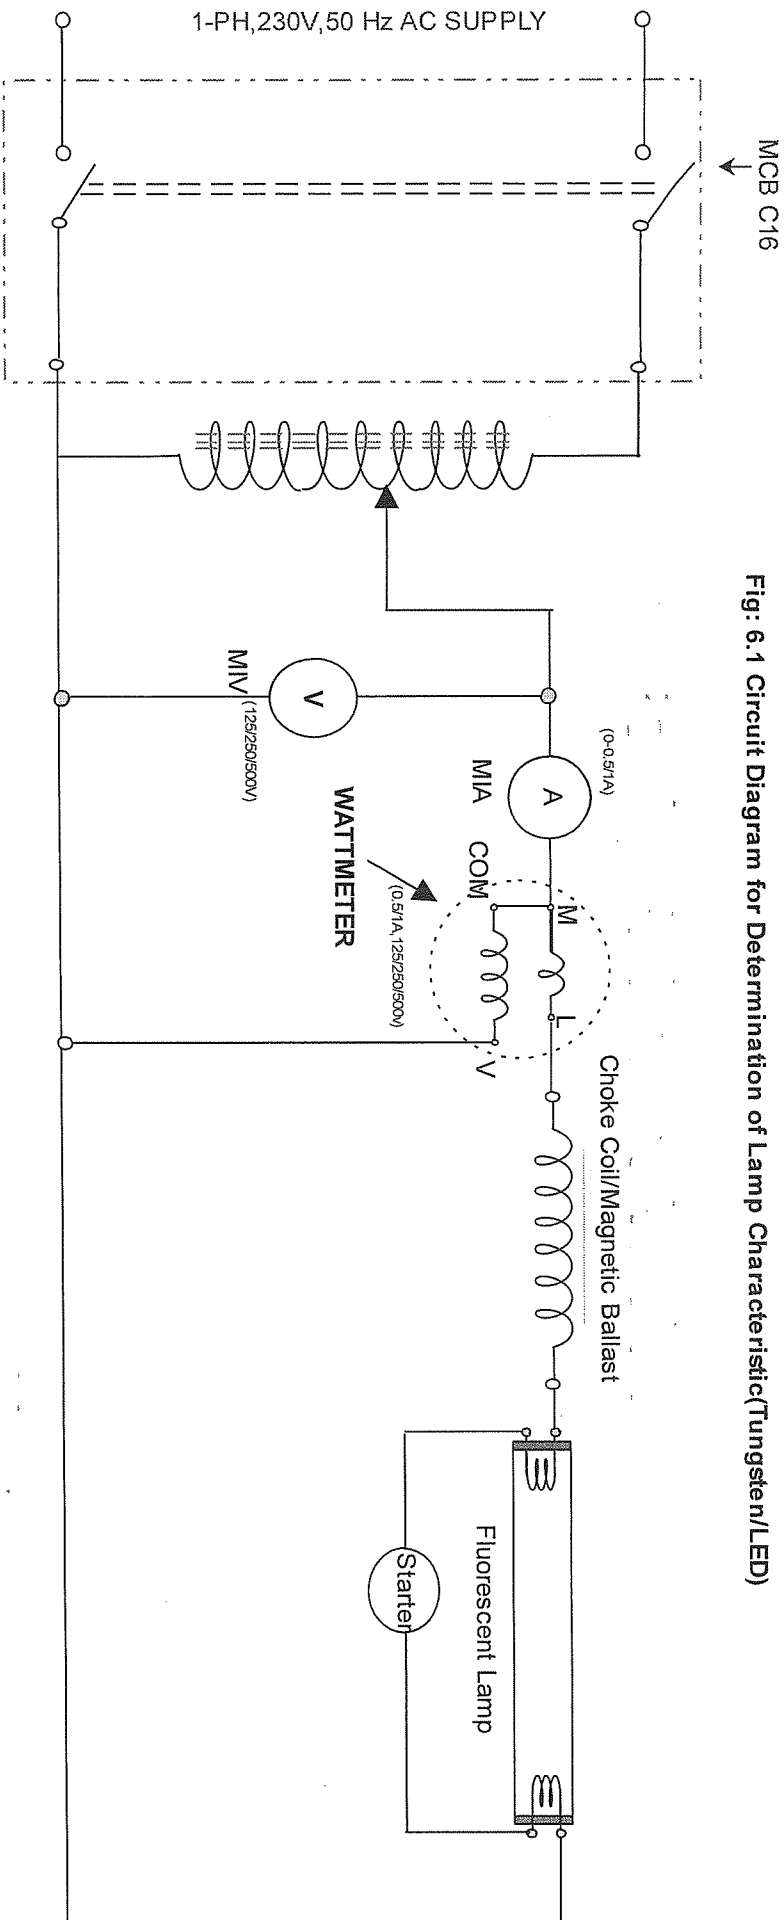

Fig: 6.2 Circuit Diagram for Determination of Lamp Characteristic (Fluorescent)
1. Connect the Fluorescent lamp according to the circuit diagram in Fig.6.2.